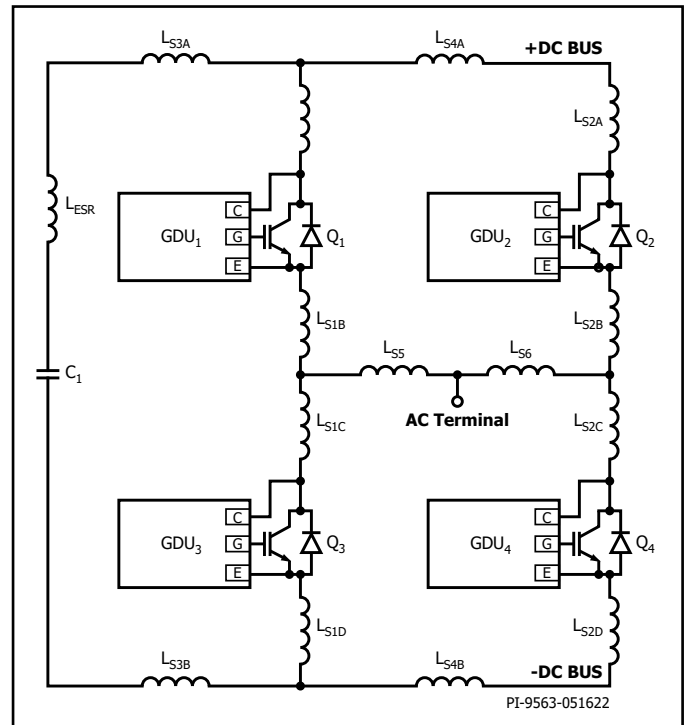

Figure 3. Half-Bridge Topology Showing Stray Inductances.
- The converter should be constructed as symmetrically as possible with respect to the positioning of the paralleled IGBT modules. In particular stray DC-link inductance of each paralleled IGBT module should be kept the same ($L_{s1X} \approx L_{s2X}$, $L_{s5} \approx L_{s6}$ – see Figure 3).